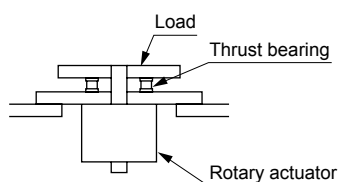

Fig. 1
- If the axial load (thrust load) on the shaft exceeds the allowable value, faulty operation could occur. Therefore, do not apply a load in excess of the allowable value. If this is unavoidable, use a structure with a thrust bearing as shown in Fig.1.
(1) First loosen the hexagon nut as shown in Fig.1.